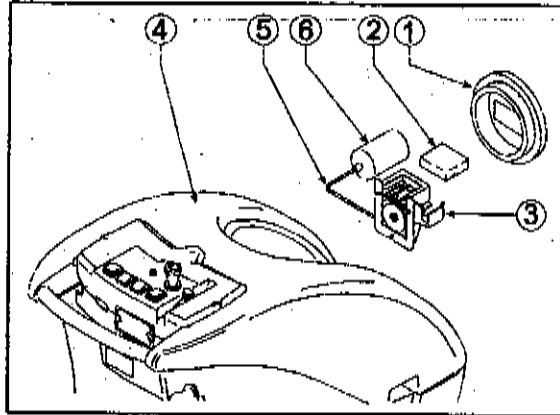

Fig. 12
**While washing the recovery tank never remove the suction filter (fig. 12, ref. 2) from its seat and never direct the jet of water towards the filter itself.**
- Unscrew and take off the tank cap (fig. 12, ref. 1) from the recovery tank (fig. 12, ref. 4);
- make sure that the recovery tank (fig. 12, ref. 4) is empty;
- take out the air filter (fig. 12, ref. 2) of the suction unit from the float support (fig. 12, ref. 3), which is located on the upper inner side of the recovery tank;
- check that the floating rod (fig. 12, ref. 5), which is also fixed to the support (fig. 12, ref. 3), moves freely and clean it, if necessary;